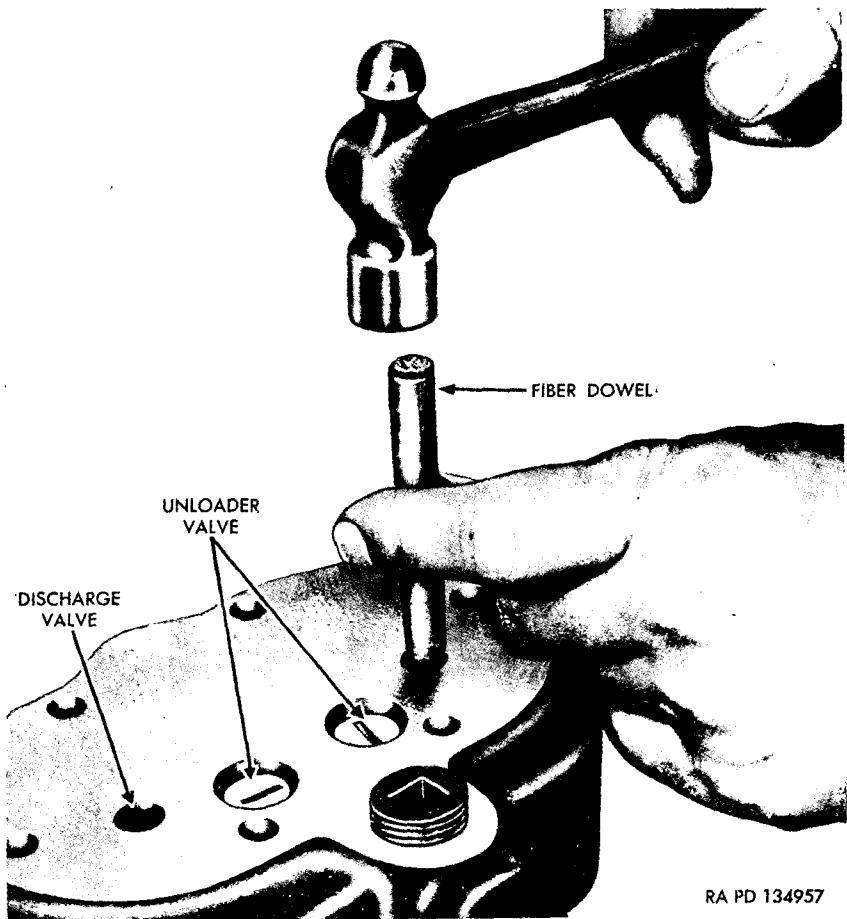
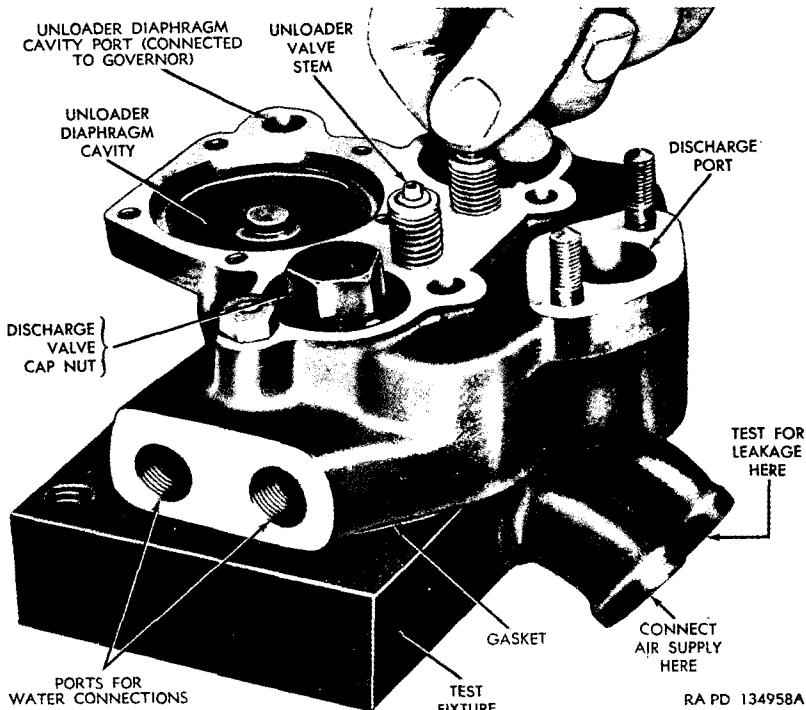

Figure 36. Seating discharge valves.
Figure 37. Testing unloader valves for leakage.
(2) If excessive leakage is found, leave the air pressure applied and, with a fiber or hardwood dowel and light hammer, tap the discharge valves (fig. 36) off their seats several times. This will improve the seal between valve and seat and reduce leakage.
(3) With air pressure still applied, apply soap suds around top of discharge valve nut. Leakage must not exceed a 1-inch bubble in 5 seconds.
c. *Unloader Valves.* To test unloader valves a test set-up permitting air pressure to be applied below each valve, and a method of measuring leakage from that valve is necessary. Figures 5, 6, and 7 show simple fixtures which may be improvised for that purpose. These fixtures, with a gasket, are secured to cylinder heads. An air line is connected below one valve, the other valve or valves are held off their seats and leakage tested with soap suds at the remaining hole or holes. Test each valve. Figure 37 shows a more elaborate fixture for this purpose.